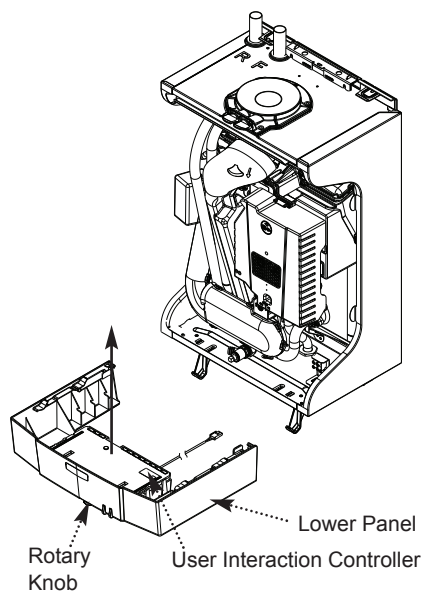

Fig. 52a
10.3.9 User Interaction Controller (Fig. 52a)